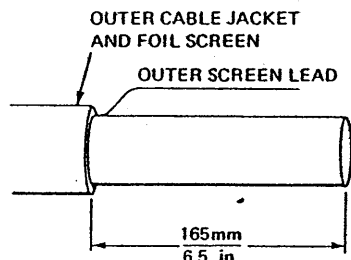

Figure 28.
- Strip back outer jacket and foil screen (shield) as shown in Figure 28. Do not cut outer screen lead.